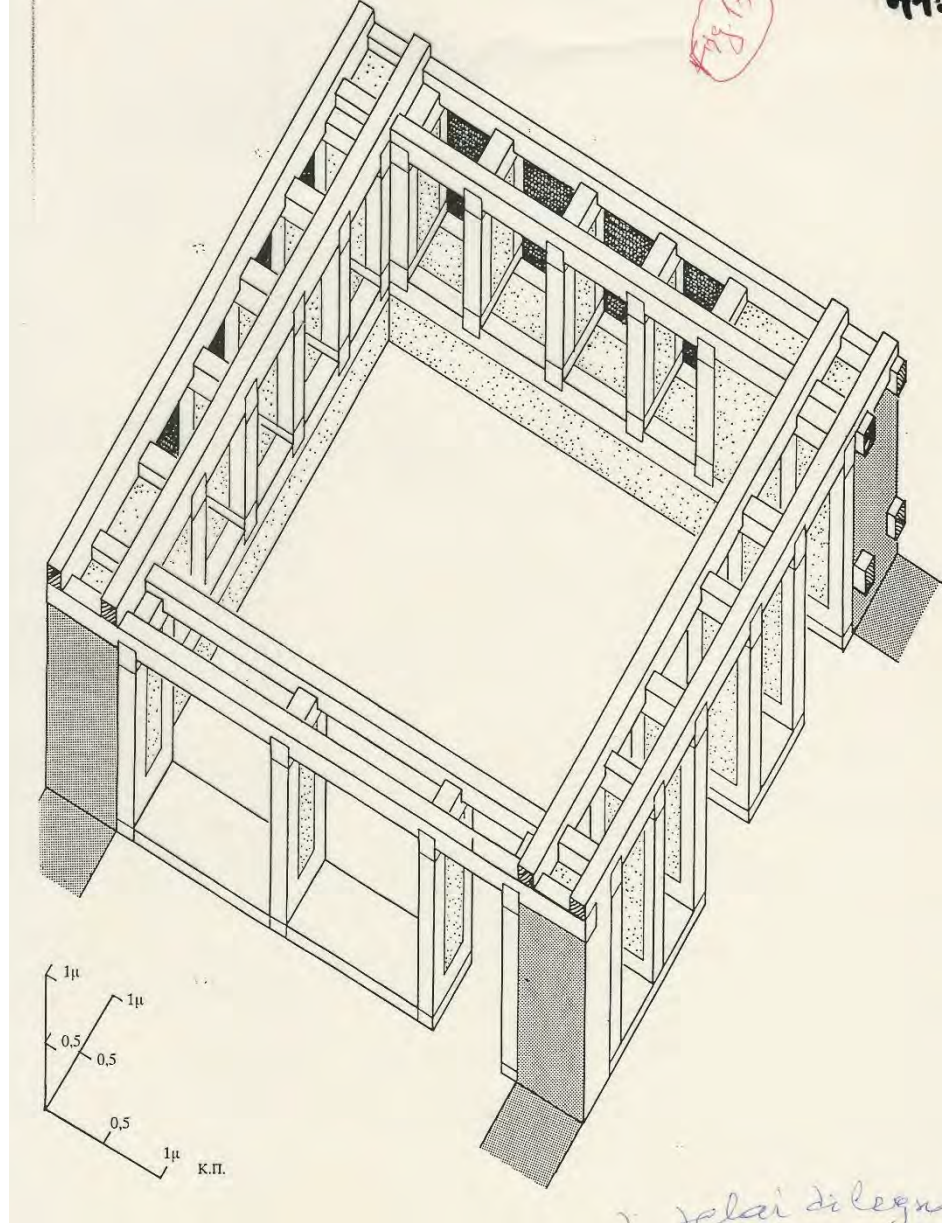

Fig.17. Complete timber frames combined with masonry, Acrotēri, (see also Fig. 16), (Palyvou)
- Aseismic hybrid system, Akrotēri (Fig. 17)